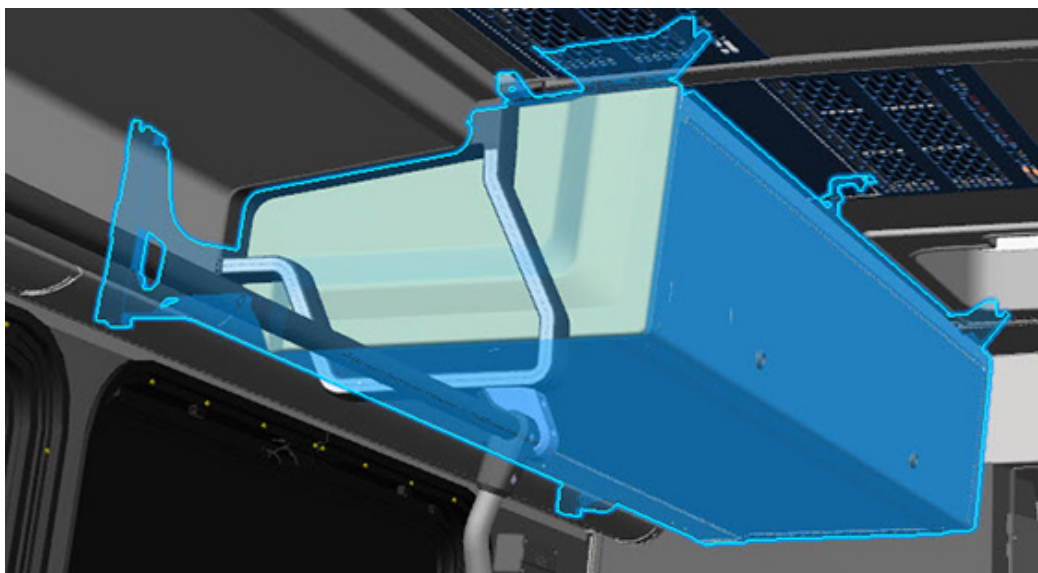

Figure 2 - ITS Baselight Box
- 1.3. Open the ITS baselight box. See Figure 2.